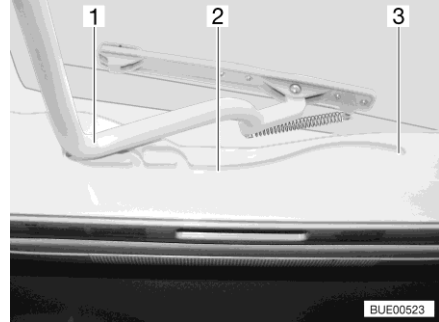

Fig. 23 Guide (Heki skylight)
- Pull the bar (Fig. 23,1) in the guides (Fig. 23,2) to the rearmost position (Fig. 23,3).
- Use both hands to push the bar (Fig. 23,1) slightly upwards.
- Pull the bar in the guides (Fig. 23,2) to the desired position.